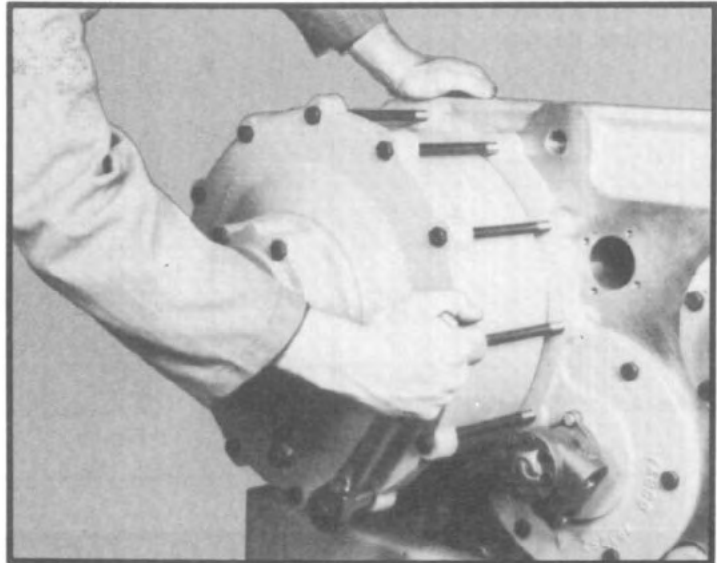
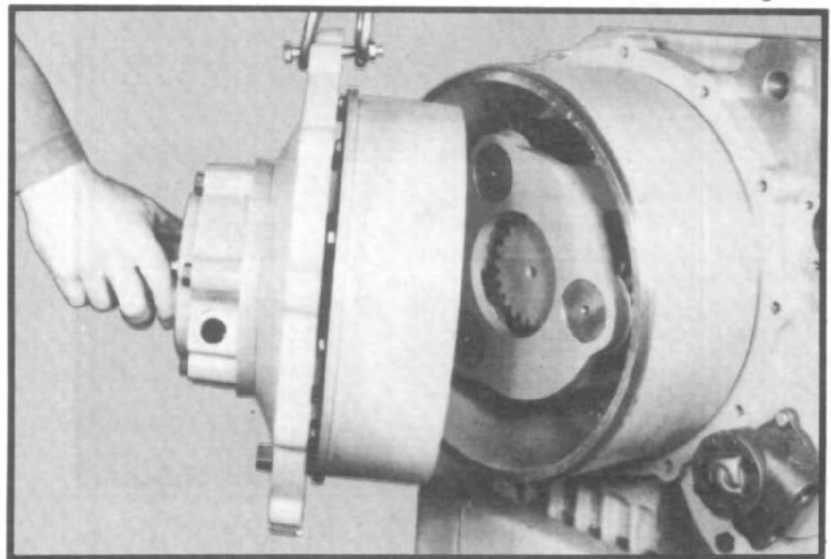

Fig. 60
FIG. 61
3.4 Remove 12 long capscrews from planetary cap. (See fig. 60.) Install a bolt or eyebolt to planetary cap through capscrew hole. Using a chain hoist fastened to the bolt or eyebolt, tap the planetary cap until it is free from the planetary housing. Pull cap away from the planetary assembly until it is free from the planetary gears. (See fig. 61.)